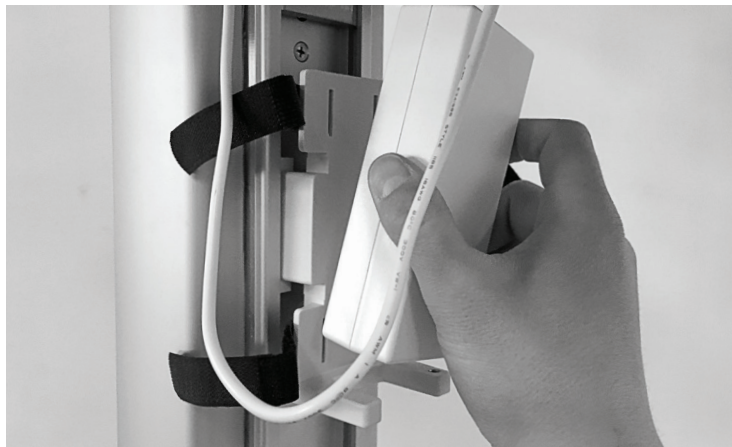

Figure 15: Power Adapter Mount
1. Position the Power Adapter on the Power Adapter Mount. See Figure 15.